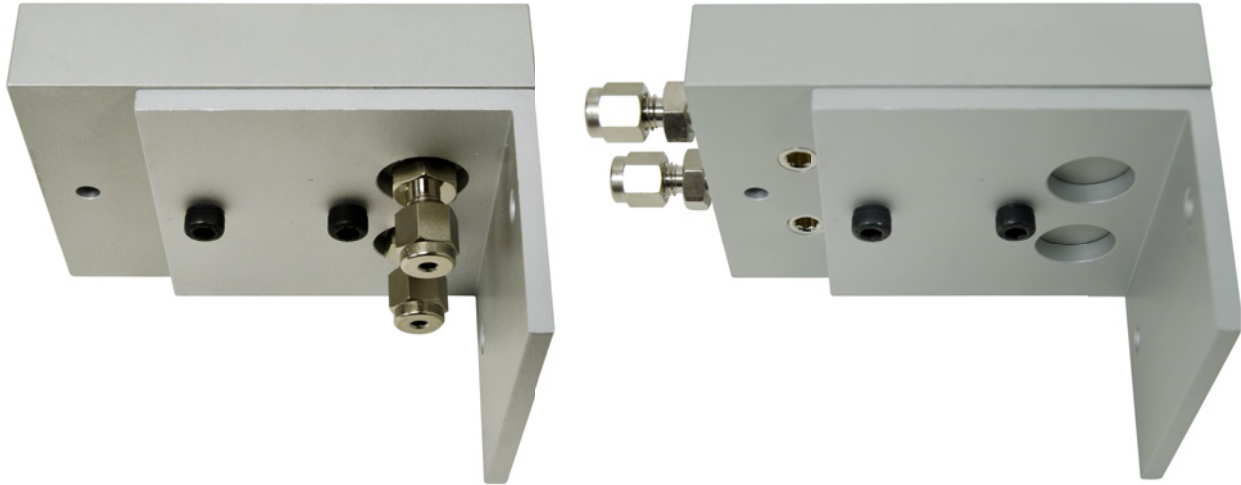

Figure 9 Connecting unit orientations on wall mounting bracket
- a Depending on the inlet/outlet fitting orientation on the connecting unit, align the connecting unit to the bracket as shown in Figure 9.